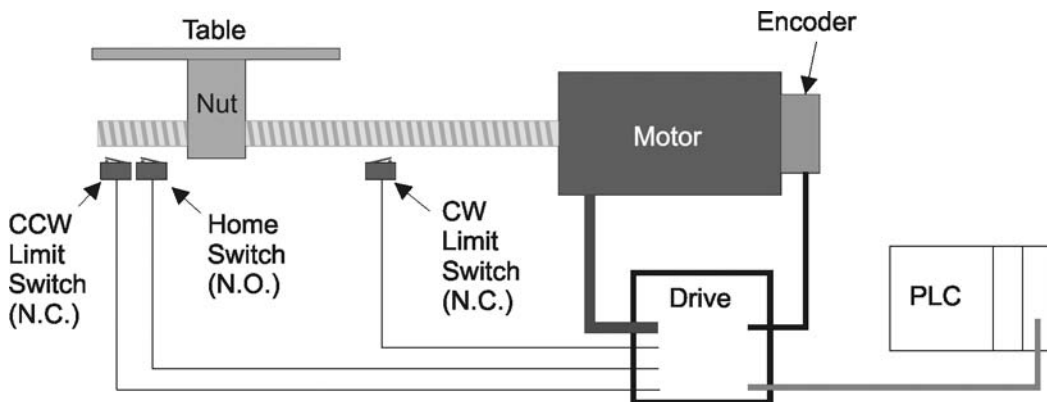

Figure 13-4 A single-axis motion control system.
Figure 13-4 is an illustration of a single, servo-controlled axis. Note the PLC is the overall controller for the system. The PLC will send signals to the drive to control the motion. The drive will control how much and how fast the motor turns. The encoder will provide feedback that the drive will use for position and velocity information. For example, if the PLC commanded the drive to move the axis to the right 10 inches at a velocity of 5 inches per minute the drive will monitor the encoder counts to make sure how far it is moving and also how fast it is moving. The position and the velocity are closed loops, meaning that the drive monitors the feedback from the encoder and automatically adjusts so that the axis moves to the correct position and also at the correct velocity. Note the home switch and the limit switches in the figure, which are inputs to the drive.
The axis has a positive (CW) and a negative (CCW) hard over-travel input. Hard in this case means a mechanical/electric connection. This is a real-world switch to monitor the axis and make sure it does not go past the limit. The over-travel inputs are used to make sure the drive cannot turn too far in either direction. Study Figure 13-4. If the table goes too far to the left, it contacts a CCW normally closed limit switch. This opens the switch, and the input to the CCW over-travel switch becomes false. This inhibits the drive from moving any more to the left and prevents damage to the drive or mechanical components. It will allow positive motion to move to the right and move off the limit. The limit sensors are normally closed and provide fail-safe protection. If a sensor fails or a wire is cut, the drive will have a low on that over-travel input and the drive will be inhibited from moving in that direction. In CLX the programmer can configure how the drive will react to an over-travel condition.
There is an international open standard for multi-axis motion synchronized motion control. It is called the Serial Real-Time Communication System (SERCOS) and is designed to be a protocol over a fiber-optic medium. Modules that employ the SERCOS standard are also available. Figure 13-4 shows an example of a SERCOS system. The SERCOS interface uses a ring topology with one master and multiple slaves (axes). The fiber-optic ring begins and ends at the master.